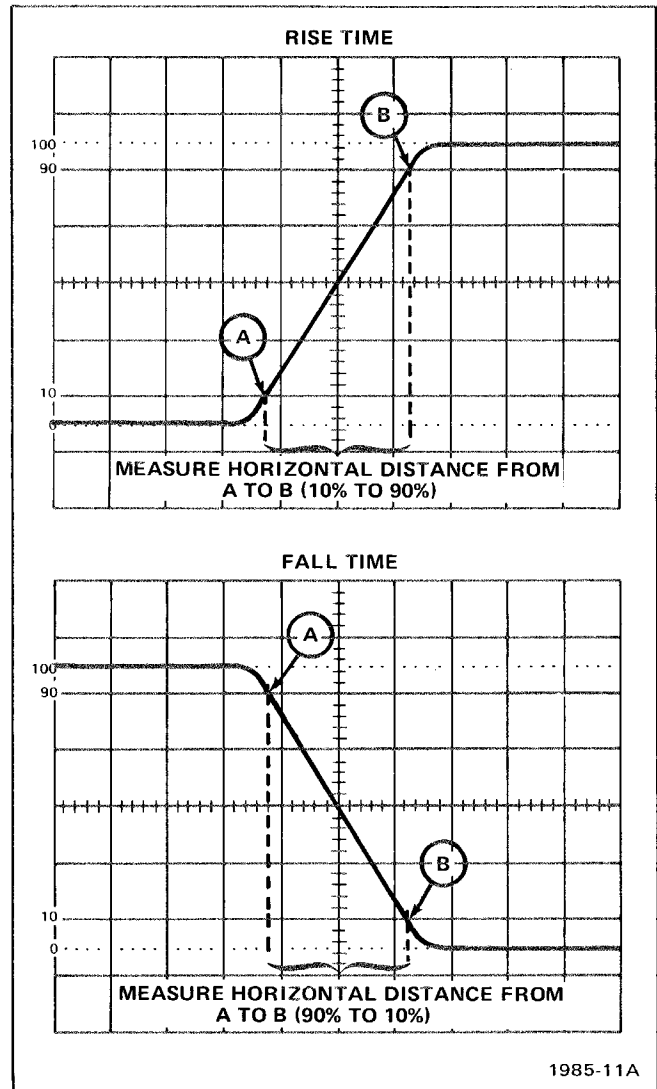

Fig. 1-7. Measuring the rise time and fall time of a displayed waveform.
6. Set the TIME/DIV switch and POSITION control to display the rising or falling portion of the waveform within the center 8 graticule divisions as shown in Figure 1-7 (see General Operating Information in this section for discussion of timing measurement accuracy).
or falling portion of the waveform that is 10% and the point that is 90% of the total display amplitude (see Figure 1-7).
Example: Assume that the horizontal distance from the 10 to 90% points is 2.5 divisions and the TIME/DIV switch setting is $.1 \mu\text{s}$ (see Figure 1-7).